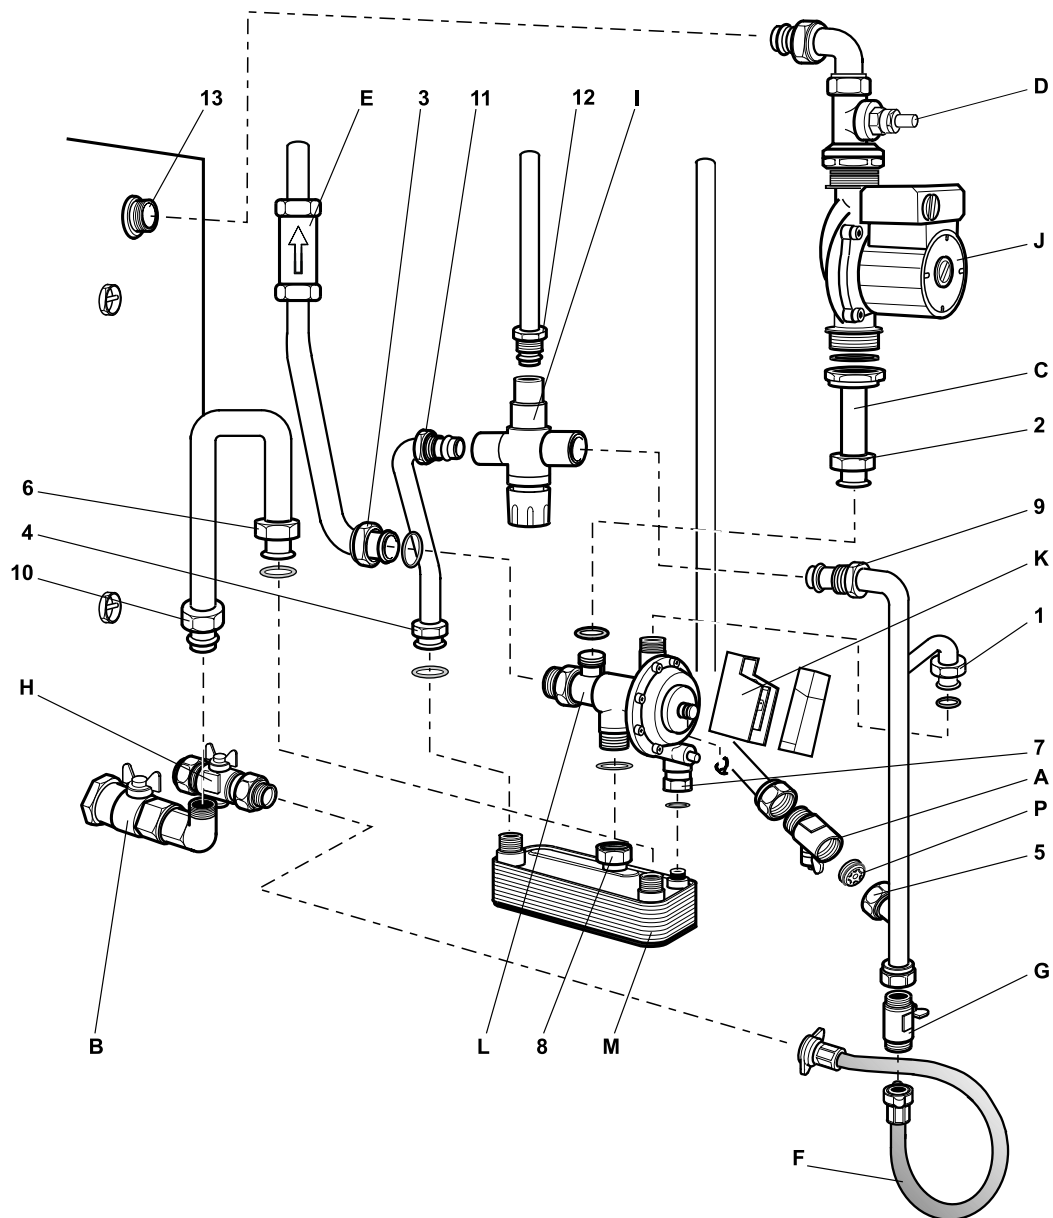

Fig. 38 - Combi 70 water components/connections
- 2 Unscrew and disconnect pipe unions 1, 5 & 9. See Fig. 38 or 39. Remove the vertical 15 mm pipe from the boiler.
- 6 Open the cold water inlet valve (A). Refill the central heating system as described in section 5.2, checking for leaks.
- 2 Close the cold water inlet isolating valve (A). Refer to Fig. 38 or 39.
- 3 Unscrew and disconnect pipe unions 1, 5 & 9. See Fig. 38 or 39. Remove the vertical 15 mm pipe from the boiler.
- 3 Unscrew and disconnect pipe union 3 from the rear of the diverter valve. See Fig. 38.